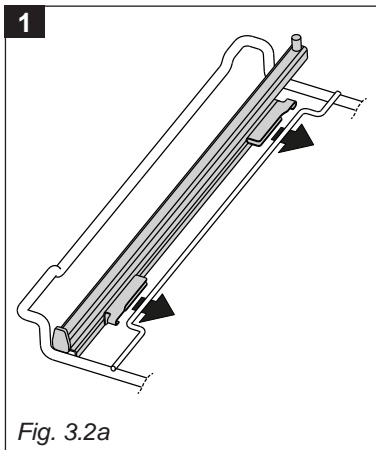

Fig. 3.2a
- You press the RH and LH sliding guides against the fixing wires (figs. 3.2a, 3.2b). You will hear a click as the safety locks clip over the wire.